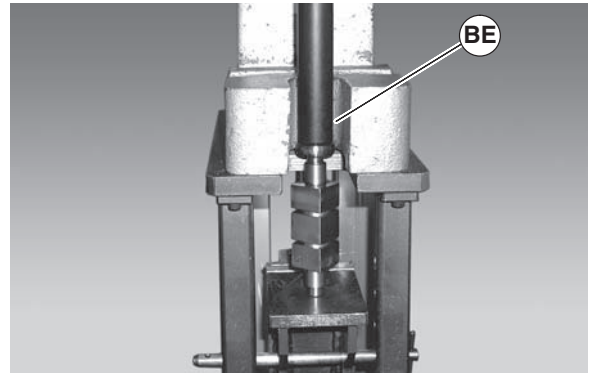

Figure 37
1. Press bearing onto drive pulley using installation tool 456085 (Figure 37, item BE).